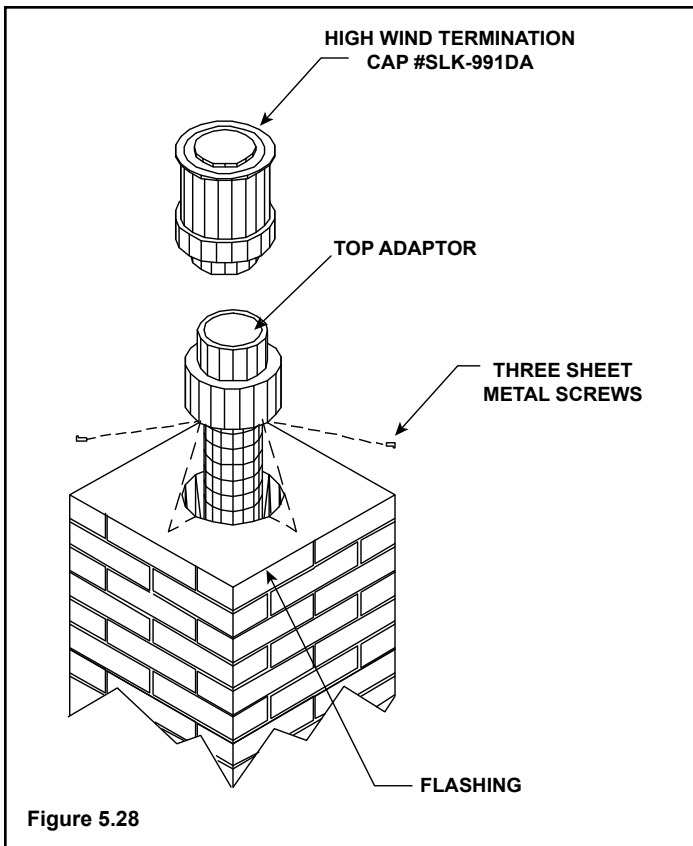

Figure 5.28
8. Secure the top adapter to the flashing. Use three sheet metal screws through the side of the top adapter into the flange on the flashing (Figure 5.28). Twist lock the high wind termination cap on to the top adapter.